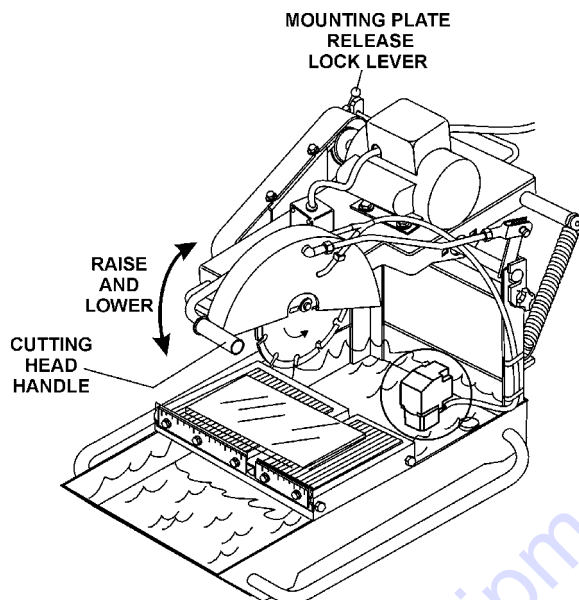

Figure 19. Cutting Head Handle
- Adjust the cutting depth by pulling up or down on the **Cutting Head Handle** (Figure 19). This saw is designed, and is best utilized as a "**Chop-Saw**". Once the mounting plate release/lock lever is released, the optimum cutting action is attained by using the **Raise/Lower Handle** to rotate down onto the material to be cut. Simultaneously the **conveyor cart is moved slowly forward** to advance the material and cutting action.